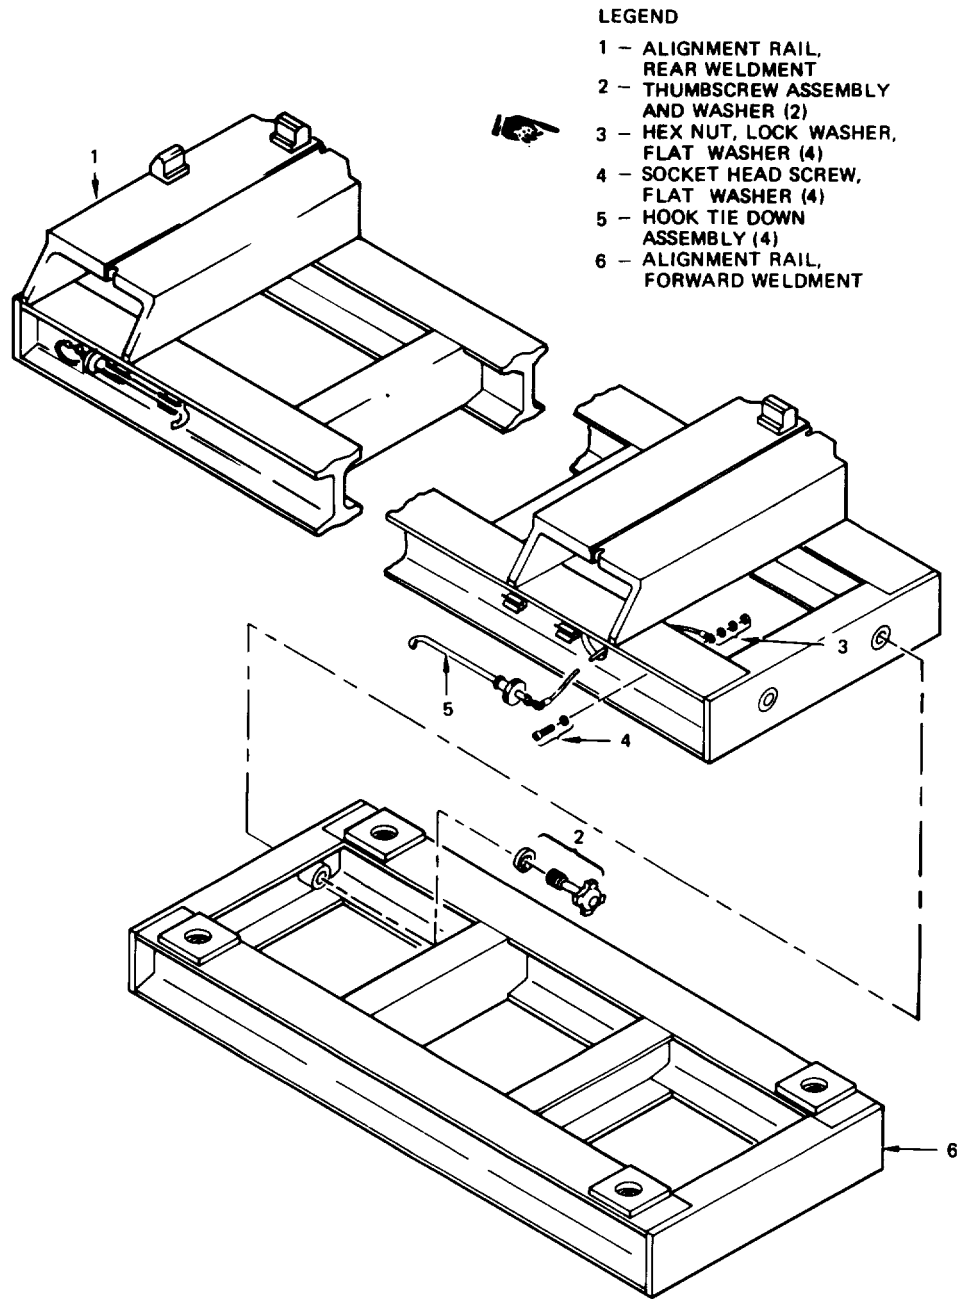

Figure 3-22. BSA Rail Assembly Maintenance.
*b.* Inspect preformed packing (68). Replace as necessary.
*c.* Apply sealer (item 40, appendix F) to threads of screw (66).
*d.* Position chamfered foot (67) on case (2) and install screw (66).
**3-143.3. BSAHF Pressure Relief Valve Repair (Units 2052 and Up).** *a.* Remove nut, washer, gasket, and pressure relief valve ( 1 ) from case (2).
*b.* Install pressure relief valve ( 1 ), gasket, washer, and nut into case (2).
**3-143.4. BSAHF Decal Repair (Units 2052 and Up).** *a.* Remove damaged decal ( 70 ) from case (2).
*b.* Clean surface with alcohol (item 4, appendix F).
*c.* Position and press decal ( 70 ) into place on case (2).
**3-144. BSA Rail Assembly Maintenance.** Maintenance of the BSA rail assembly consists primarily of removal and replacement of faulty subassemblies. For maintenance of the BSA rail assembly, refer to figure 3-22.